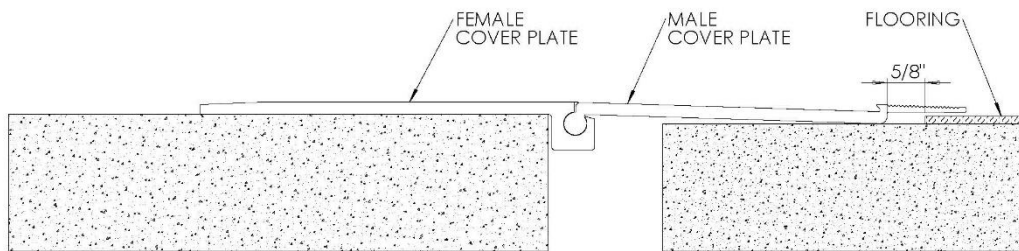

FIGURE 2
2. Position the cover plate into the expansion joint with the channel area of the female cover plate placed tight against the inside of the expansion joint. The concrete on the male cover plate side of the floor should be marked $5/8$ " from the offset in the male cover plate. This is where the flooring should end on this side of the expansion joint. **See Figure 2**